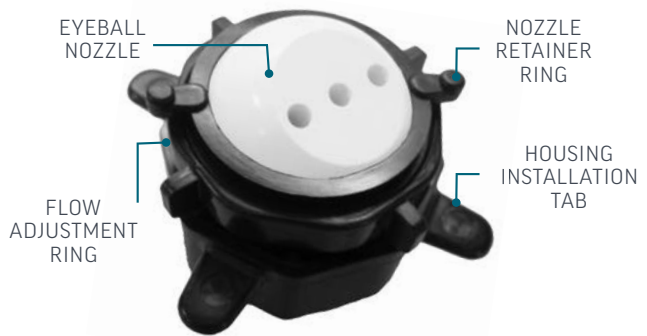

FIG 1
8. Take the jet nozzle housing assembly and install in the body by turning the installation tabs (*fig 1*). Hand tighten only. Do not overtighten.